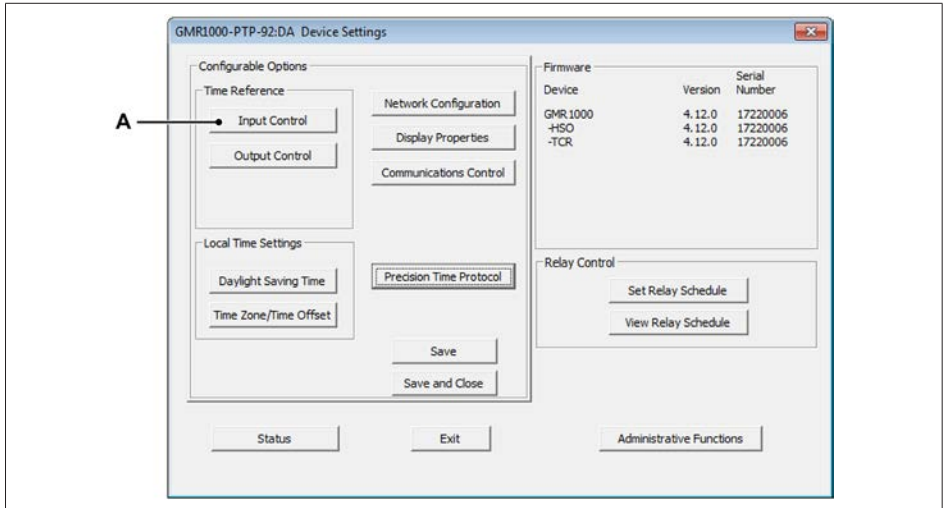

Fig. D.20 GMR1000 PTP Device settings
- Expand the tree in the **Device Configuration Utility** until the specific device is found, which is part of the GMR1000 Master reference -> GMR1000 PTP Server family. Once found, click on the device, this will open the device settings window (see Fig. D.20).